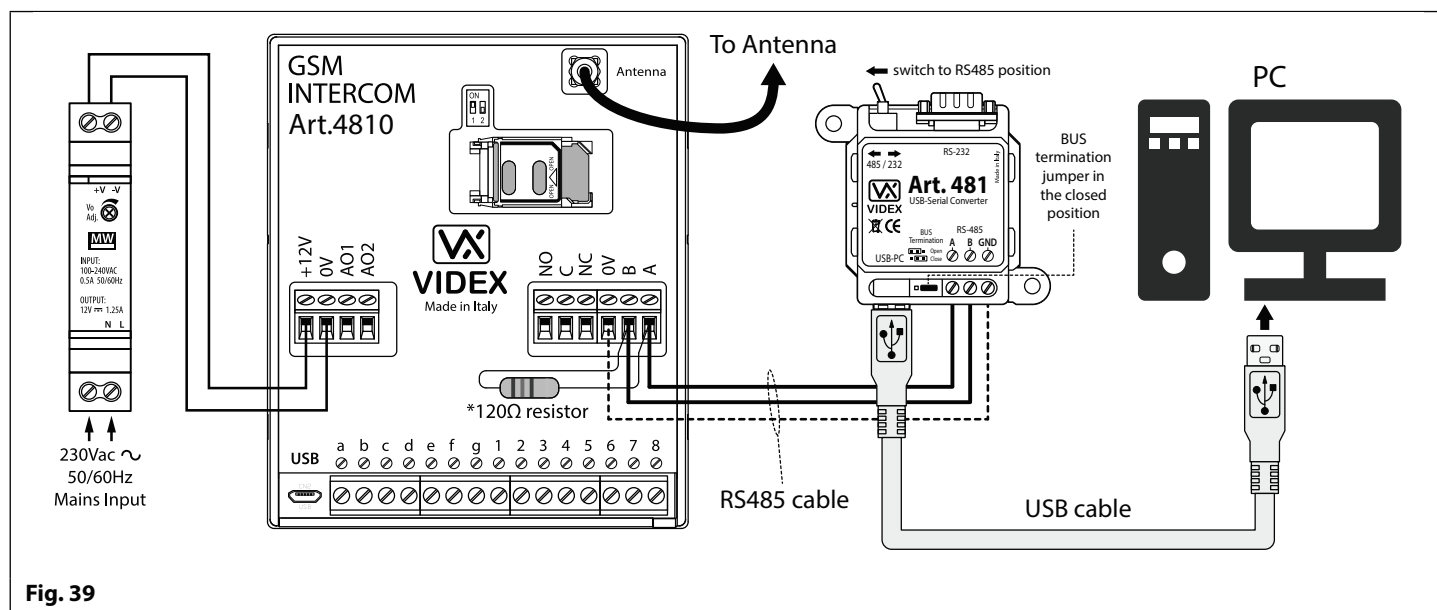

Fig. 39
The GSM PRO module can also be connected using an RS485 bus connection via an RS485 to USB converter (Art.481) as shown in **Fig.39**. This method of connection, like option 1, can be used for programming and setup of the GSM module, but can also be used in instances where a permanent connection to a PC is required for monitoring purposes and downloading event logs. When connected in this way the GSM module can only be connected as a 'one-to-one' bus connection to the PC, another GSM PRO module **cannot** be connected on the same RS485 bus to the PC.
*For end of line termination a 120Ω resistor must be fitted across the RS485 terminals A and B, as shown in **Fig.39**, but only if the GSM PRO intercom is the last device in line and over a great distance (500m max.). Over shorter distances the 120Ω resistor is not required and the bus termination jumper on the Art.481 can be set to the OPEN position.